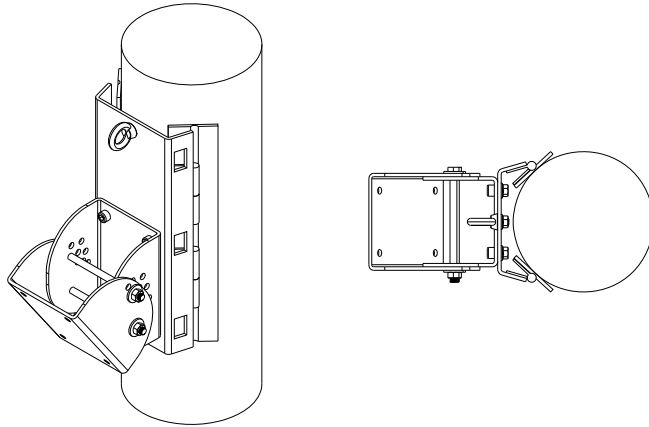
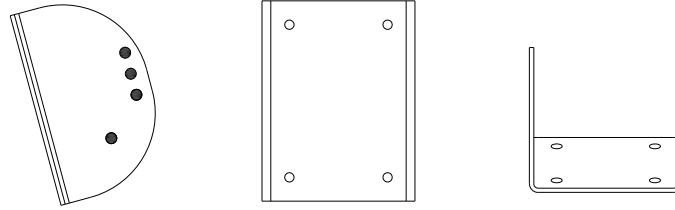
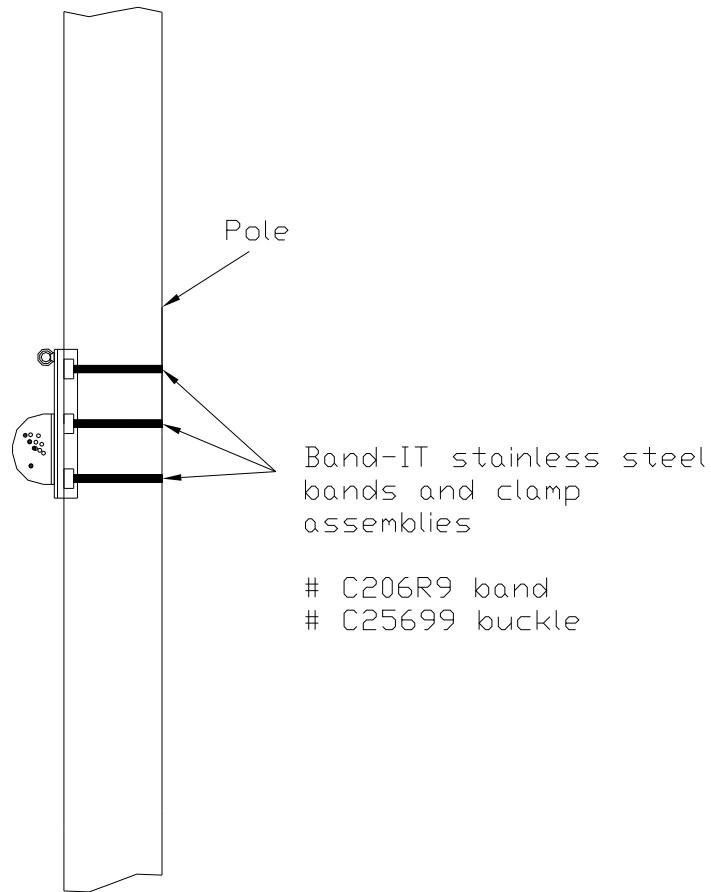

Figure 1.
Figure 2.
Figure 4.
The Pole Mount System consists of three parts: the pole bracket, the loudspeaker bracket, and the Safety Link. The pole bracket is shown in Figure 1. The bracket shown in figure 1 is designed for pole diameters of 8 inches (203.2mm) to 20 inches (508mm). The unique “self adjusting” hinge design of the pole mount will adjust to this specified range of pole diameters. Pole diameters smaller than 8 inches must not be used.
Figure 1 represents the isometric and top views of the pole bracket, including the loudspeaker bracket section. The loudspeaker bracket is shown separately in Figure 2.
1. Mount the pole mount section (see figure 1) of the bracket to the pole at the desired height on the pole. The bracket is mounted to the pole using BAND-IT stainless steel bands. **DO NOT SUBSTITUTE** bands of other material or other widths! There are three locations on the pole bracket for bands. **ALL THREE LOCATIONS MUST BE USED.** Figure 4 illustrates the locations for the stainless steel band clamps.
4. The loudspeaker may now be placed on the pole bracket (see figure 2).